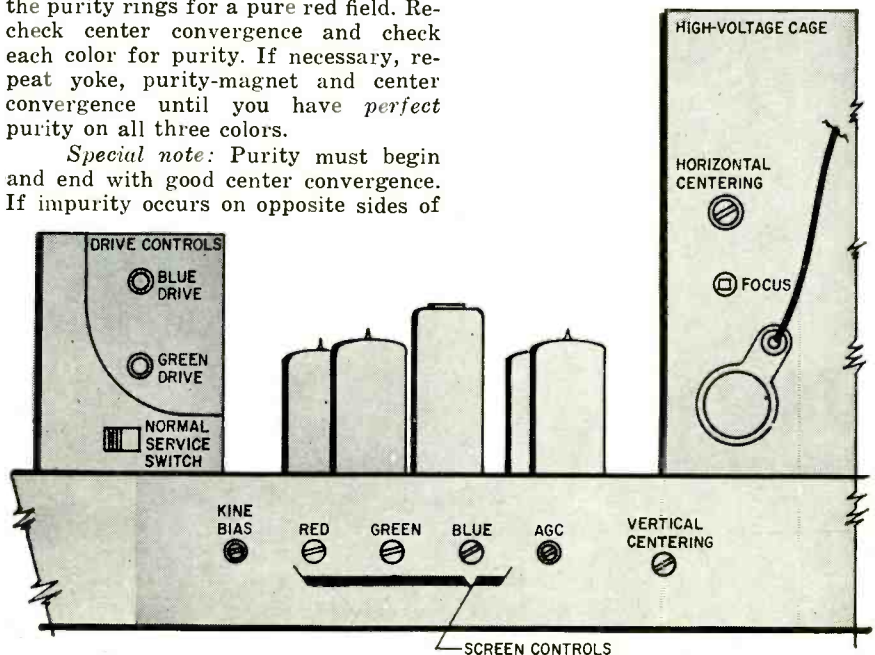

Fig. 1—Rear of color chassis showing position of controls.
1. Slide the NORMAL - SERVICE switch to SERVICE position (see Fig. 1 for location on rear of chassis). This disables the vertical circuit and you see a single horizontal line whose brightness is unaffected by the brightness control.